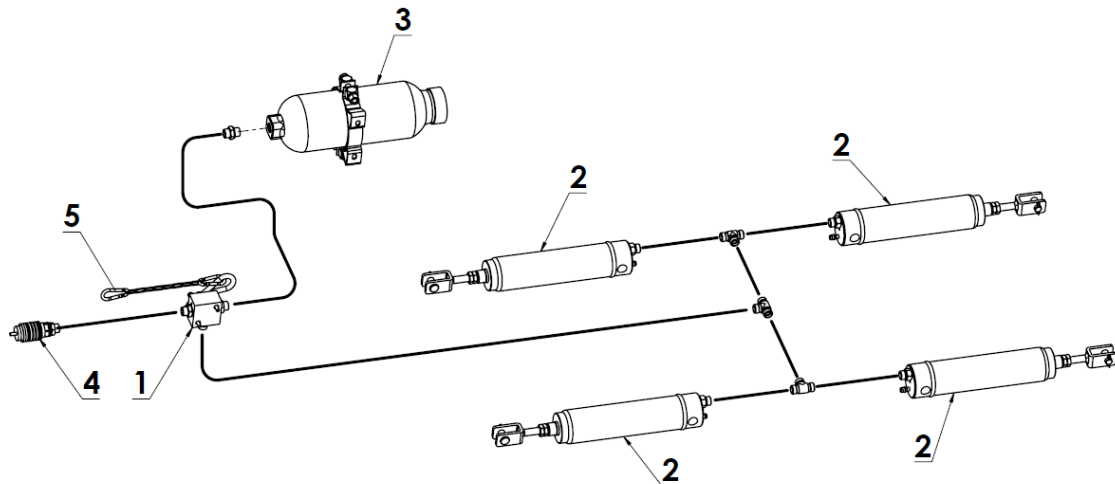

Figure 11 1-line hydraulic braking system - N267, N267/1 Spreaders:
- 1-line hydraulic braking system: N267, N267/1 (Figure 11),